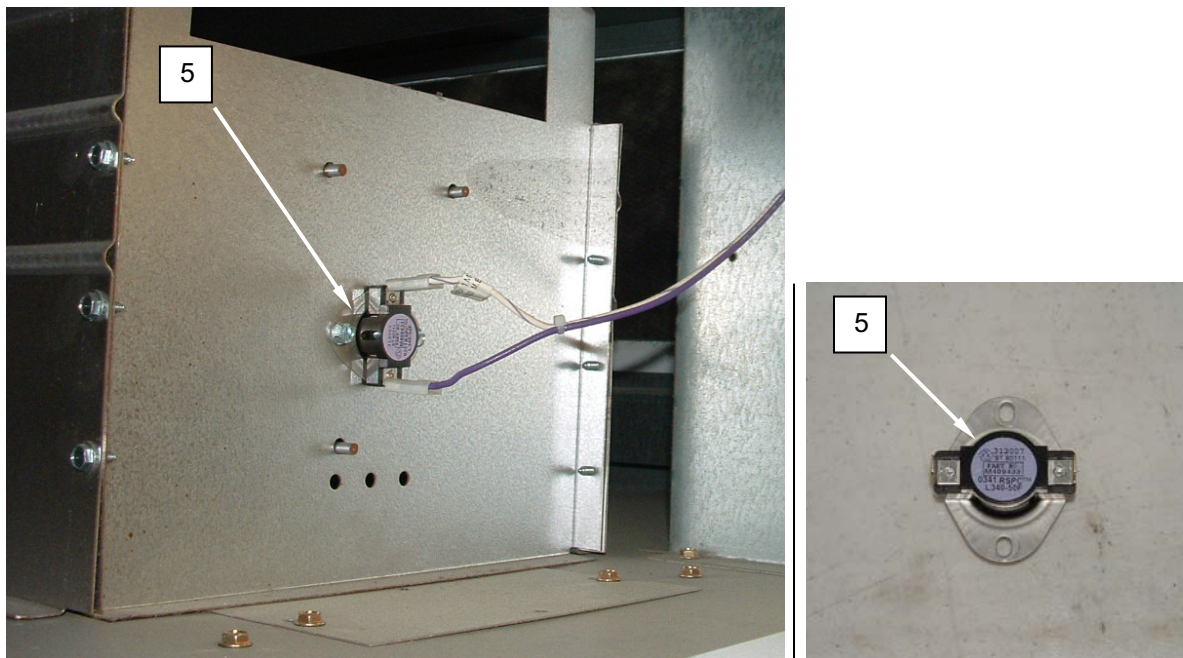

Figure 10. Replace the High Limit Thermostat.
3. Tag and disconnect wiring from thermostat (**Figure 10, Item 5**).
4. Remove the screws retaining the thermostat (**Figure 10, Item 5**) and remove the thermostat.
5. Install the replacement thermostat (**Figure 10, Item 5**) and retain with screws.
6. Connect wiring to thermostat (**Figure 10, Item 5**) as tagged.